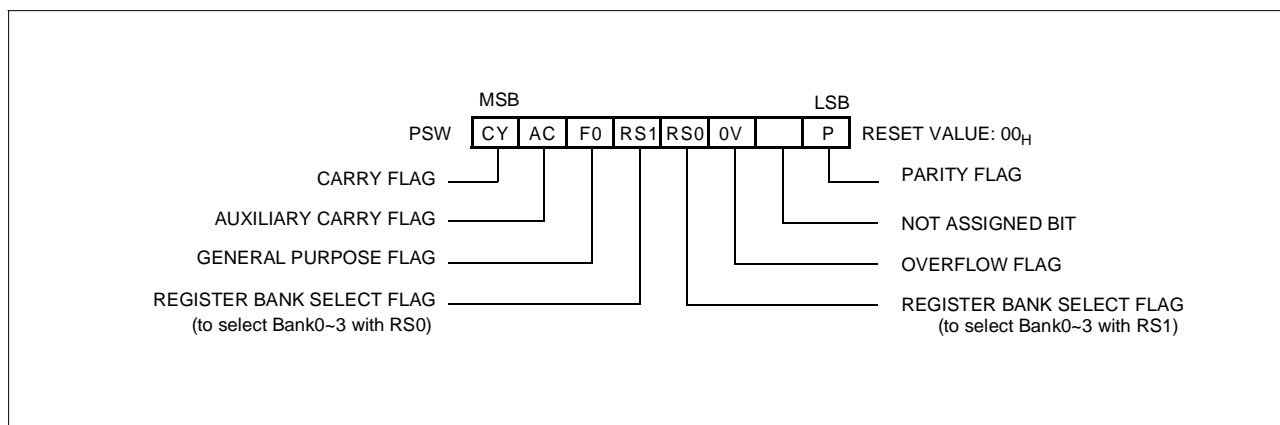

Figure 8-4 PSW(Program Status Word)Register
**Program Status Word:** The Program Status Word (PSW) contains several bits that reflect the current state of the CPU and select Internal RAM(00H~1FH:Bank0~Bank3). The PSW is described in Figure 8-4. It contains the Carry flag, the Auxiliary carry flag, the Half Carry (for BCD operation), the General purpose flag, the Register bank select flags, the Overflow flag, the undefined flag and Parity flag.